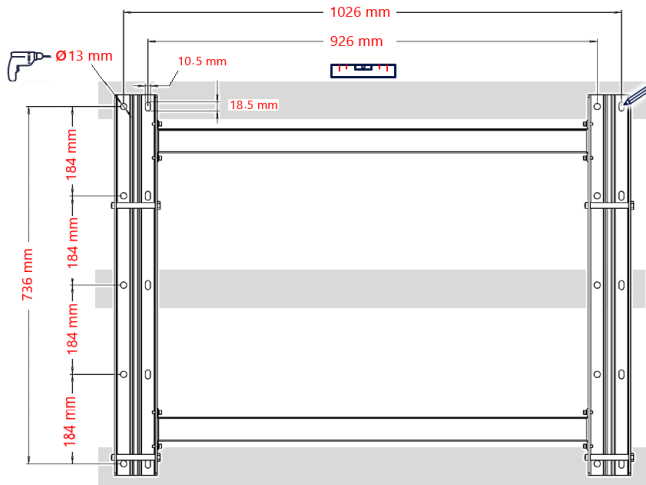

Figure 18: Marking the drilling holes the mounting bracket
1. Level the mounting bracket of the inverter horizontally against the metal frame and mark at least eight drilling hole locations (see *Figure 18*).